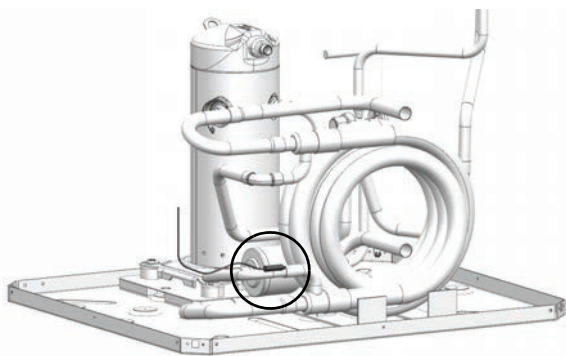

Fig. 20 — Water-Side Freeze Protection Sensor
- Evaporator freeze protection sensor, mounted between the thermal expansion device and the evaporator, monitors refrigerant temperature between the evaporator coil and thermal expansion valve. If temperature drops below or remains at freeze limit trip for 30 seconds, the controller will shut down the compressor and enter into a soft lockout condition. The default freeze limit trip is -3.3°C. (See Fig. 20 and 21.)